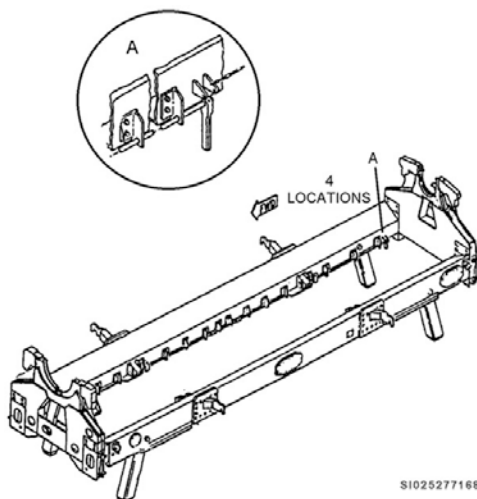

Figure 3-10. Lock pin handle location.
6. Extend the LLA hooks using a socket and wrench or speeder. After positioning the trailer around the LLA, align the trailer lift beam attachment fittings with the LLA hooks. Extend the hooks and lock them in place. Be sure lock pin handles are quick-release pinned in place (fig. 3-10).